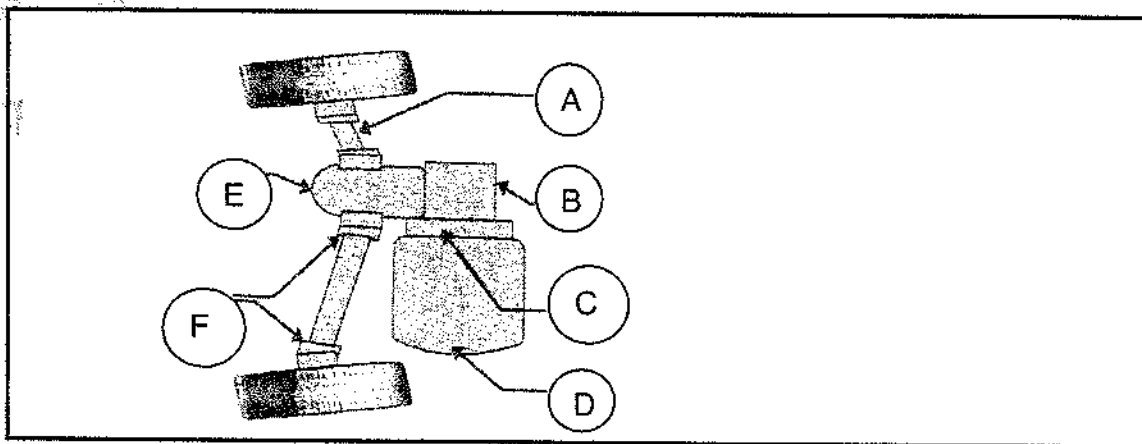

FIGURE 4 (6)
- 3.2 FIGURE 4 below shows a front engine, front-wheel drive.